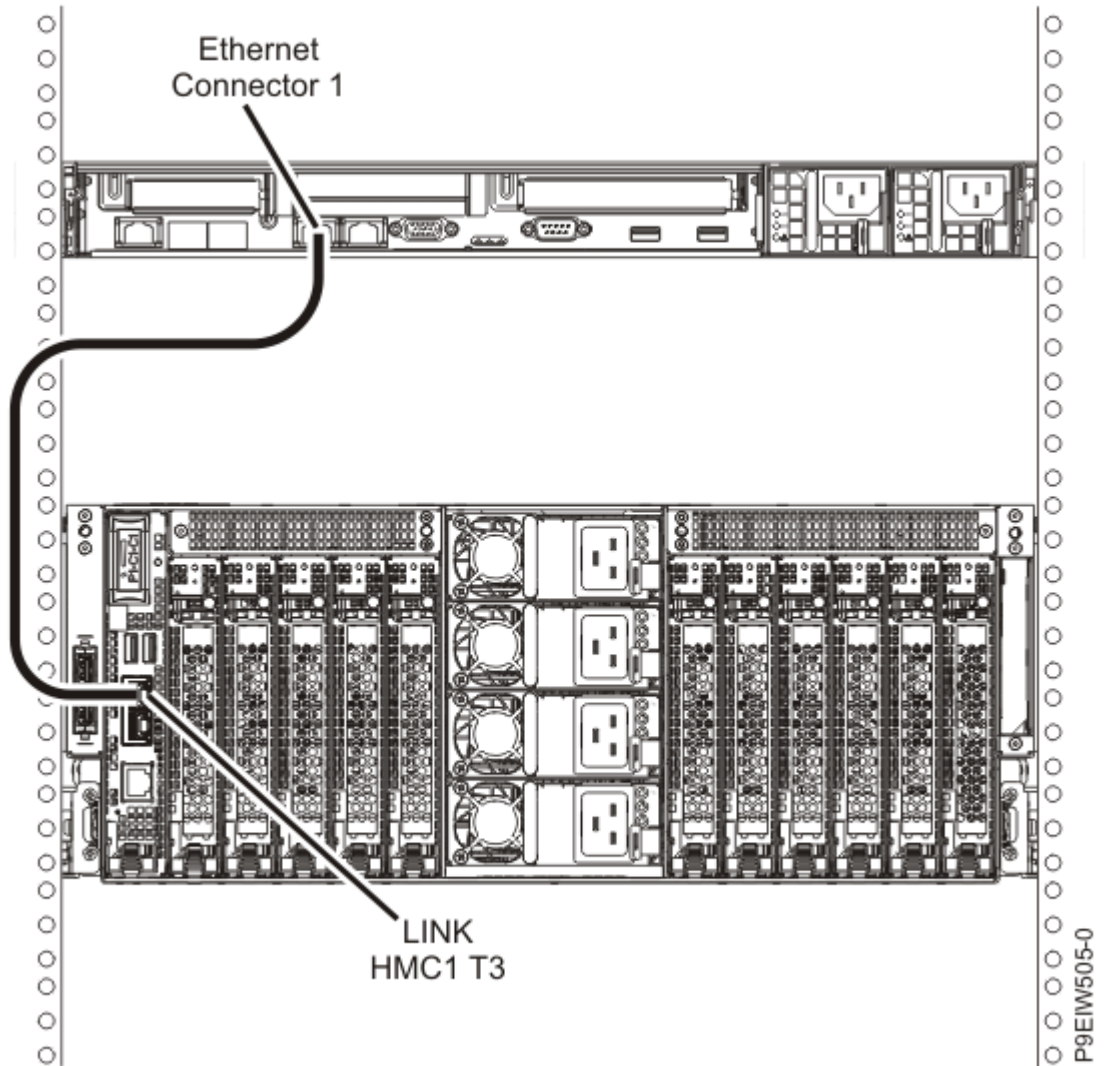

Figure 33. Directly attaching the HMC to the managed system
1. If you want to directly attach your HMC to the managed system, connect **Ethernet Connector 1** on the HMC to the **HMC1 (T3)** port on the managed system, as shown in Figure 33 on page 36